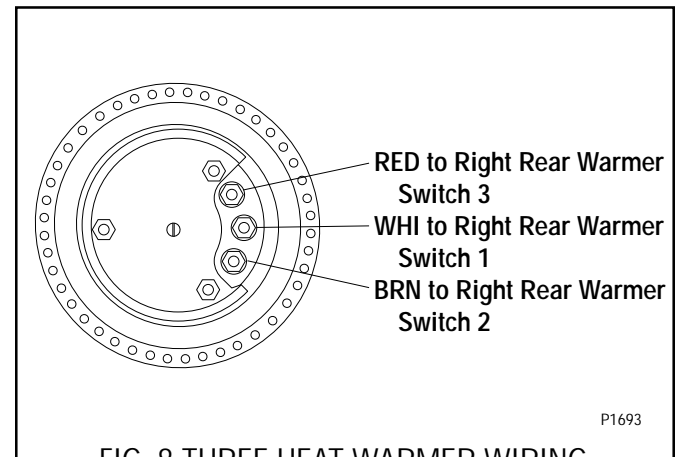

FIG. 8 THREE HEAT WARMER WIRING
4. Refer to FIG. 8 when reconnecting the wires.